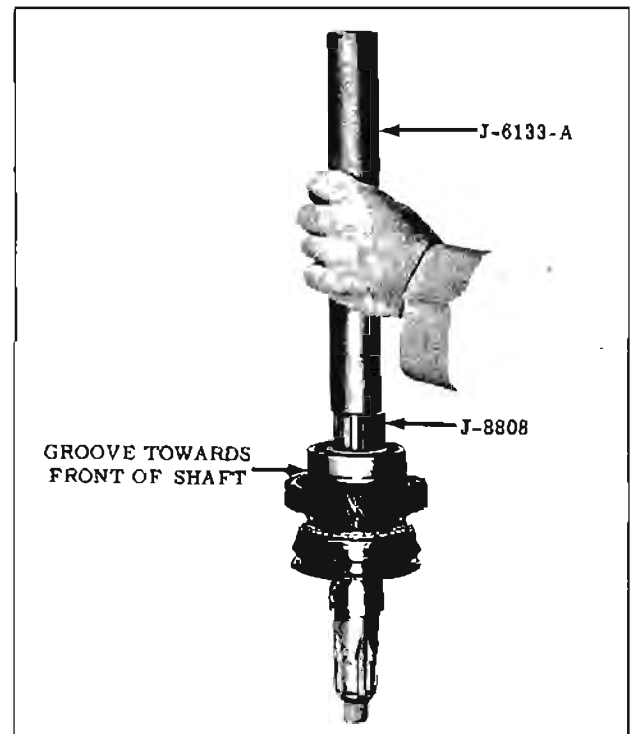

Fig. 11-242 Seating Rear Bearing
- Install the rear bearing with the snap ring groove in the outer race toward the front of the main shaft. Firmly seat bearing against the shoulder on the main shaft with tools J-6133 and J-8808. (Fig. 11-242)